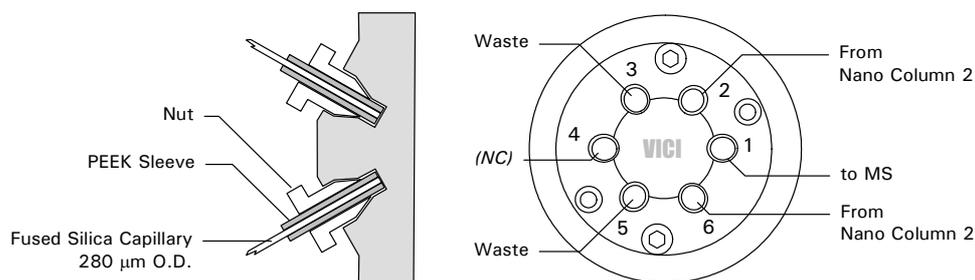

FIGURE 2-4 Connecting the Nano Valve
- Remove the fused silica outlet tubing of Nano column 2 (connected to Switchos valve B) and connect the column outlet to port 2 of the Nano valve (FIGURE 2-4). Use a piece of the 280 μm O.D. / 20 μm I.D. fused silica capillary (P/N 160475) and a 300 μm PEEK sleeve (P/N 162139).
- Remove the fused silica outlet tubing of Nano column 1 (connected to Switchos valve A) and connect the column outlet to port 6 of the Nano valve (FIGURE 2-4). Use the same 280 μm O.D. fused silica capillary and 300 μm PEEK sleeve.